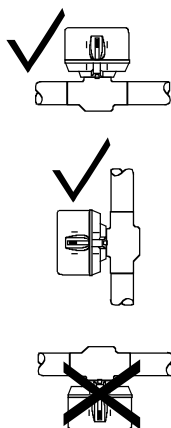

Fig. 3: Valve mounting position
3. The valve may be installed with flow from A to B, or B to A (Fig. 2). The valve body may be plumbed in any angle but not with the actuator below the horizontal level of valve body (Fig. 3). Make sure there is enough room around the actuator for servicing or replacement. Install the valve in a good location for future maintenance, leaving an extra 25 mm head clearance required to remove the actuator.